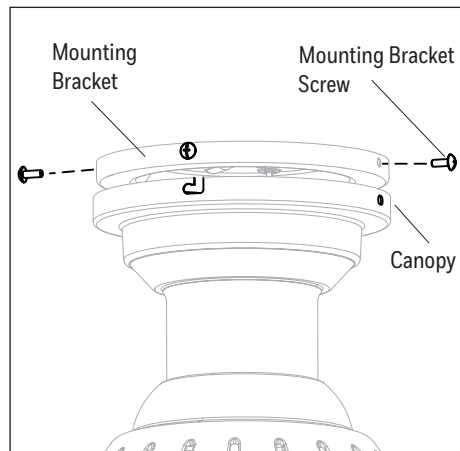

Figure 2.2
2. Loosen all four mounting bracket screws and completely remove the two screws from the round holes in the canopy. Save the screws for later. Remove the canopy from the mounting bracket (Figure 2.2).